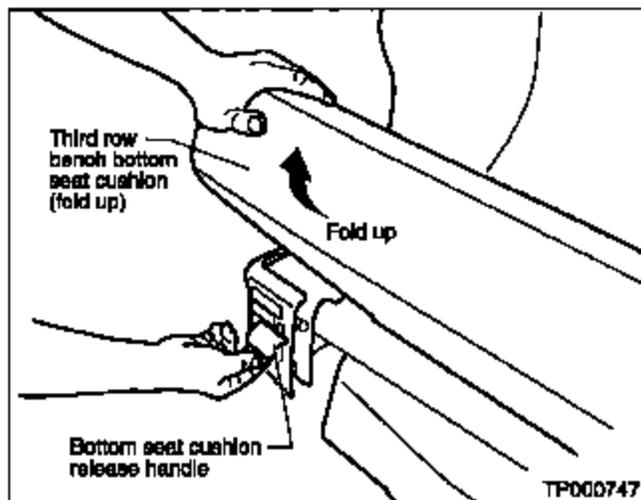

Figure 10
1. Fold up the bottom seat cushion by pulling on the release handle located under the seat and on the passenger side (see Figure 10).